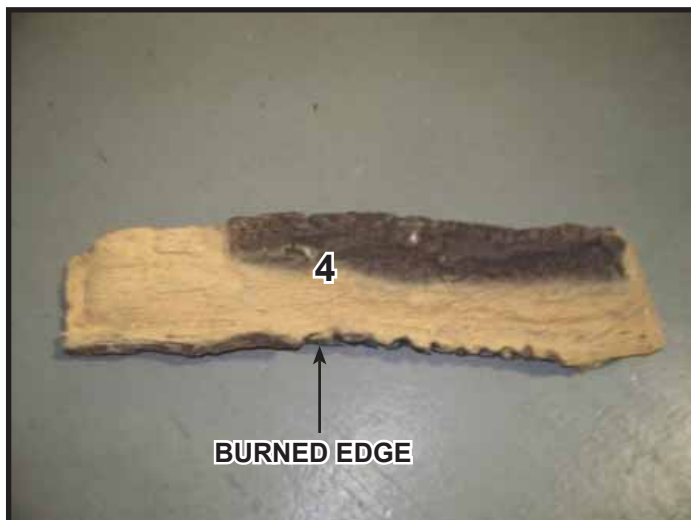
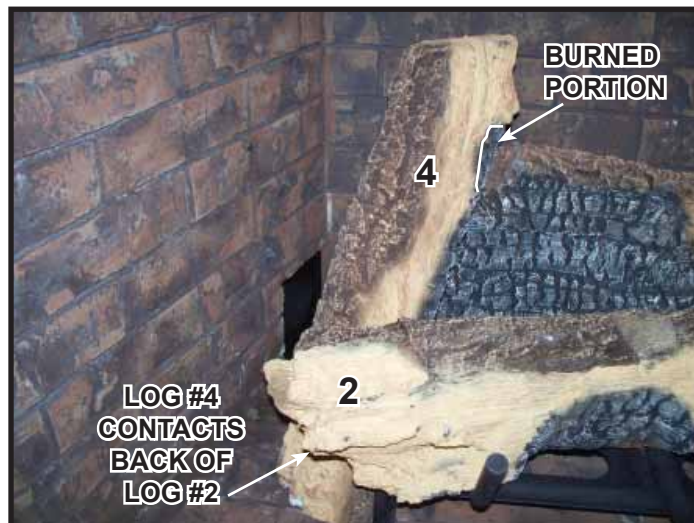

Figure 8.
Figure 9.
**Log #4 (2284-704):** See Figure 8. Place Log #4 in appliance with burned edge facing center. The bottom of Log #4 will rest on bottom refractory. Slide bottom of Log #4 forward until it contacts back side of Log #2. Log should also be positioned as close to the burner as possible. Rest top of Log #4 in notch on top left corner of Log #1. See Figure 3 and Figure 9.